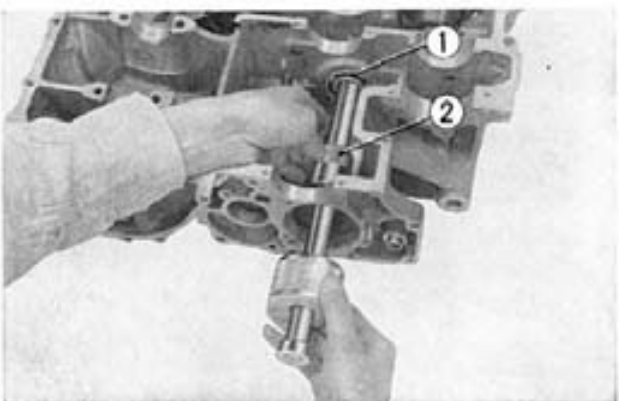

Fig. 5-8 ① Countershaft bearing
9. Pull out the countershaft right bearing from the lower crankcase using the bearing puller (Tool No. 07048-30025). (Fig. 5-8)